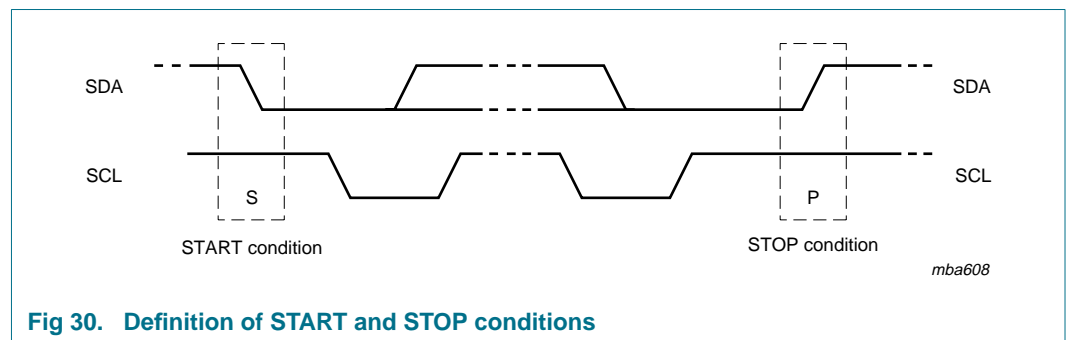

Fig 30. Definition of START and STOP conditions
Both data and clock lines remain HIGH when the bus is not busy. A HIGH-to-LOW transition of the data line while the clock is HIGH is defined as the START condition (S). A LOW-to-HIGH transition of the data line while the clock is HIGH is defined as the STOP condition (P) (see Figure 30).